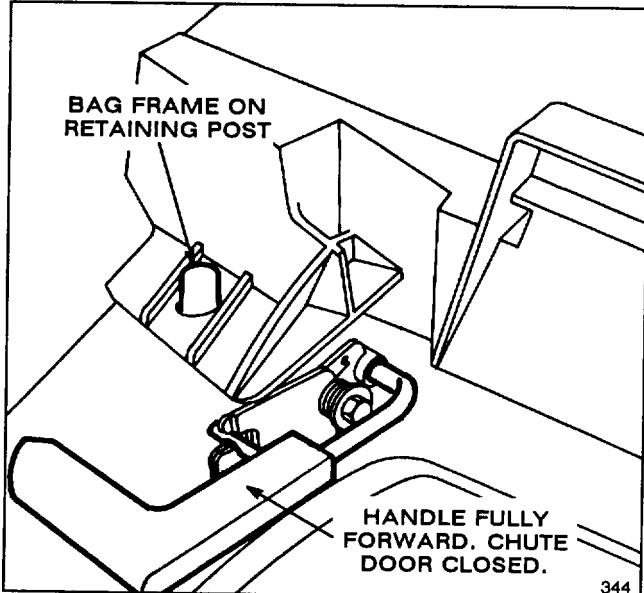

Figure 7
2. Ensure discharge door handle is fully forward and pin is engaged in catch (Fig. 7).
3. INSTALLING BAG—Slide hole in bag frame onto retaining post on discharge tunnel (Fig. 7) and set rear of bag frame onto lower handle.
5. EMPTYING BAG—Stop engine and wait for all moving parts to stop. Raise discharge door handle and move it forward to engage the locking pin with catch (Fig. 7). Grasp handles at front and rear of bag and lift bag off mower. Gradually tip bag forward to empty clippings.